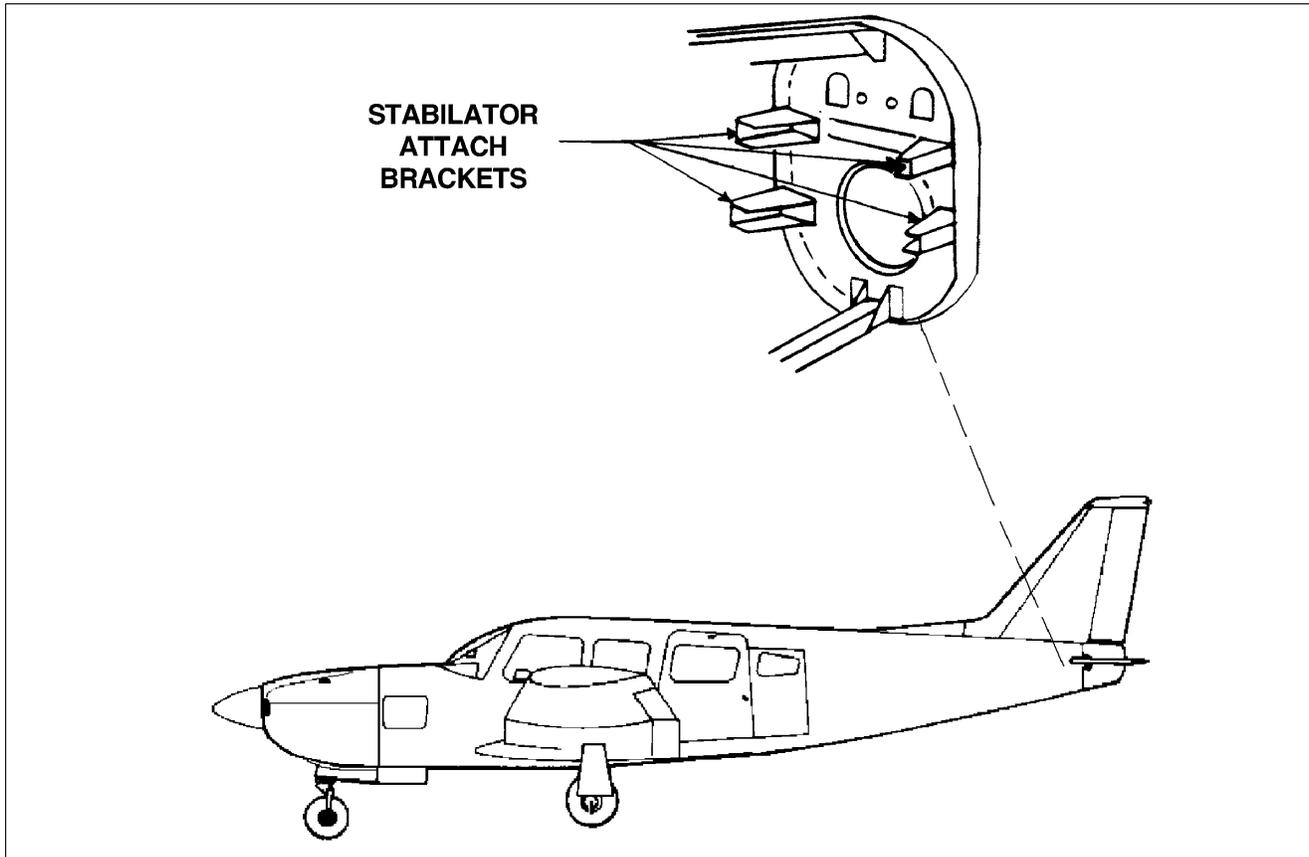

Figure 55-3. Stabilator Attach Brackets (Typical)
D. Stabilator Attach Brackets Corrosion Control Inspection (Refer to Figure 55-3)
3. Inspect the steel stabilator attach fittings (4 places) and adjacent fuselage structure for the presence of rust and/or corrosion. (Refer to Figure 55-3)